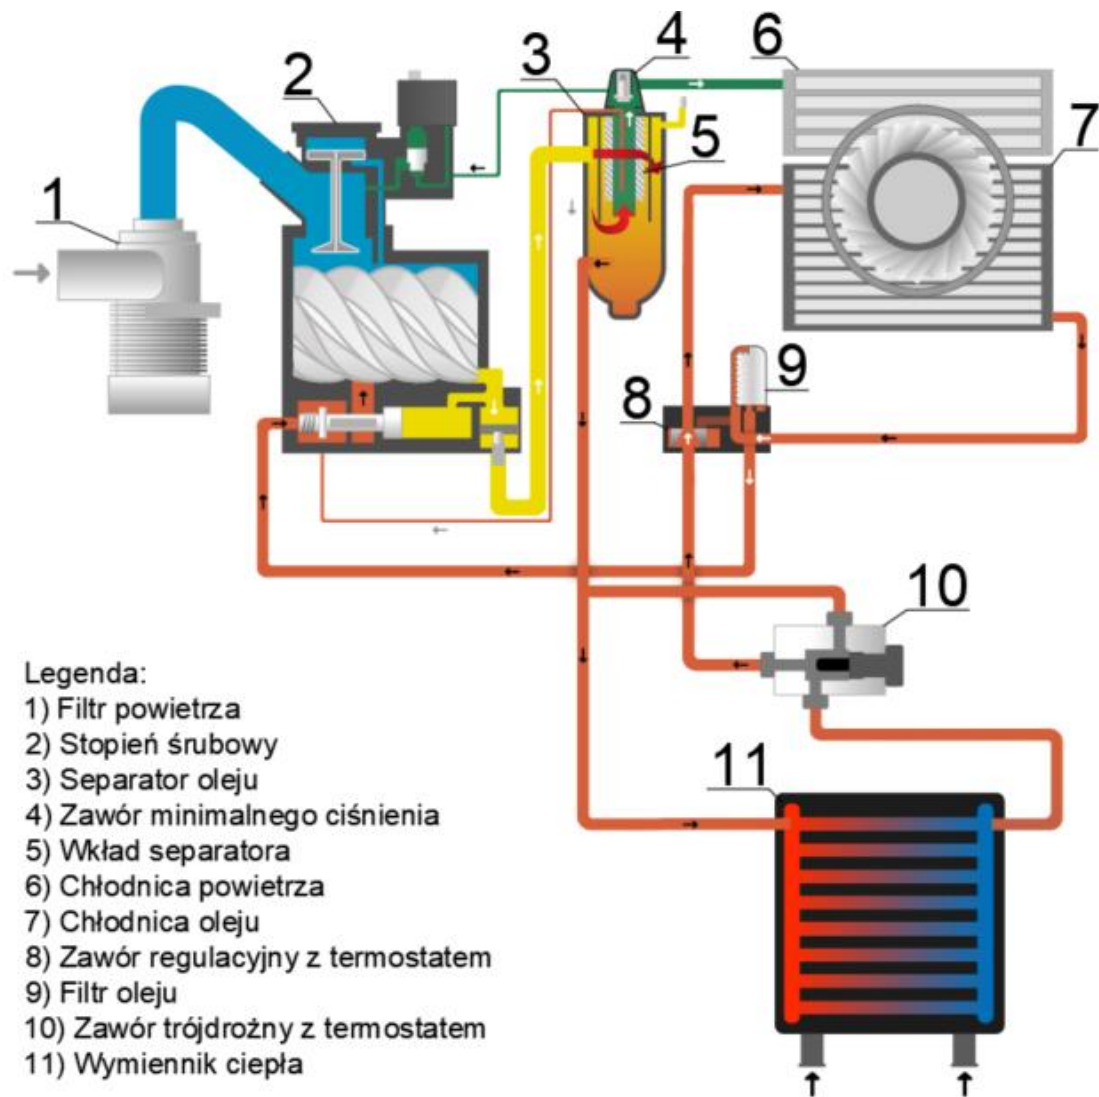

Figure 4. Process diagram of a compressor equipped with a heat exchanger.
Figure 4 shows a process diagram of a compressor equipped with a heat exchanger. The principle of operation of the compressor is the same as in Figure X. The difference is that the compressor is equipped with a heat exchanger and a three-way valve with thermostat. Oil from the separator flows into the heat exchanger, to which an oil heat removal system can be connected. The function of the thermostatic three-way valve (10) is to protect the compressor against oil overcooling. It is equipped with an insert with a 55°C setting and ensures that the oil flowing out of the valve (10) is not colder than 55°C. If the oil were colder, e.g. 20°C, and the air intake in winter was, e.g. -10°C, this would cause condensation on the screw stage and not in the air cooler.